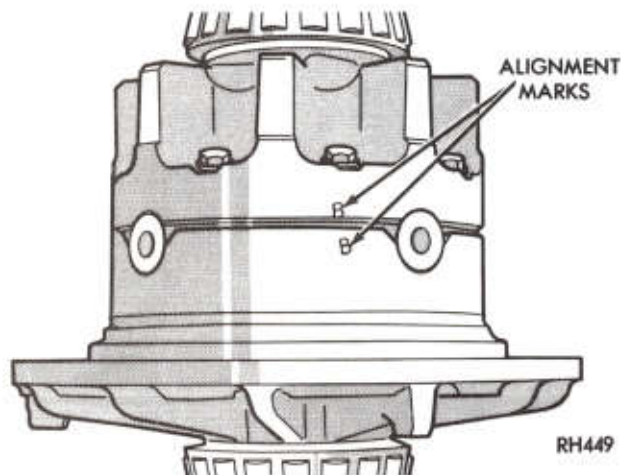
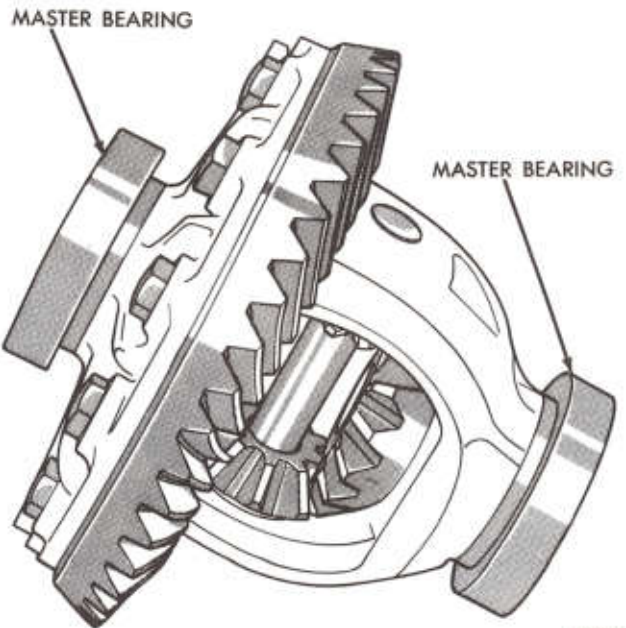

Fig. 8—Differential Case Half Identification (70 Axles)
Fig. 12—Differential Master Bearing Installed
On 70 axles mark differential case halves (Fig. 8) to aid at reassembly. Remove studs holding differential
(1) Lubricate all parts with differential lubricant. Install differential side gears and thrust washers, pinion mates and thrust washers and pinion mate shaft in differential case. On **60 and 60M axles** align hole in shaft with hole in case and drive in lock pin. On the **70 axle** align marks (Fig. 8) on case halves made at disassembly, install mounting studs and tighten evenly to 65-70 ft. lbs. (88 to 95 N-m). **If new gears and washers are used, it will not be necessary to check gear backlash. Correct fit is provided due to close manufacturing tolerances.** Position drive gear on differential case pilot, aligning threaded holes of drive gear with those in differential case flange.
(2) Insert new drive gear screws through case flange and into the drive gear. After all cap screws are properly started, tap drive gear against differential case flange with a non-metallic mallet.
(3) Clamp unit between brass jaws of a vise and alternately tighten each cap screw to specifications.
(4) Install master differential bearings Tool D-117 onto case (Fig. 12).